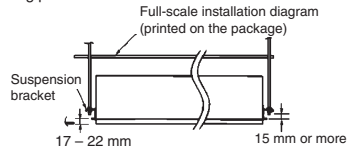
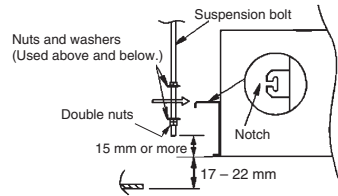

Fig. 3-6
Fig. 3-7
- (1) The measurements of the ceiling hole and suspension bolt positions should be as shown in Fig. 3-1. The length of the suspension bolts should extend a minimum of 15 mm beyond the bottom of the unit suspension bracket. Refer to Fig. 3-6.
- The length of the suspension bolts should be such that there is clearance of at least 15 mm below the bottom of the bracket, as shown in Fig. 3-7. If the suspension bolts are too long, they will contact the ceiling panel and lower motor cover, making installation impossible.
- (3) Thread the 3 hexagonal nuts and 2 washers (field supply) onto each of the the 4 suspension bolts as shown in Fig. 3-7. Use 1 nut and 1 washer for the upper side, and 2 nuts and 1 washer for the lower side, so that the unit will not fall off the suspension lugs.
- (4) The indoor unit should be suspended from the suspension bolts (Fig. 3-7) so that the distance between the bottom of the suspension lug and the bottom surface of the ceiling is 17 to 22 mm. (Fig. 3-6) Clearance between the indoor unit and the bottom surface of the ceiling is adjustable after the ceiling panel is attached to the unit.